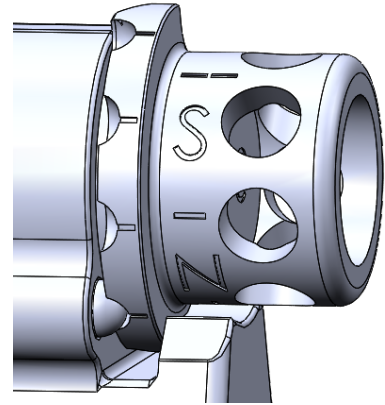

Figure 9: Gas Valve Markings
1. To set the gas setting to Normal, rotate the gas valve within the gas block until the "N" is centered over the detent and clicks into place. (Figure 9)
2. To set the gas setting to Adverse, rotate the gas valve within the gas block until the "A" is centered over the detent and the gas valve clicks into place. (Figure 9)
3. To set the gas setting to Suppressed, rotate the gas valve within the gas block until the "S" is centered over the detent and the gas valve clicks into place. (Figure 9)